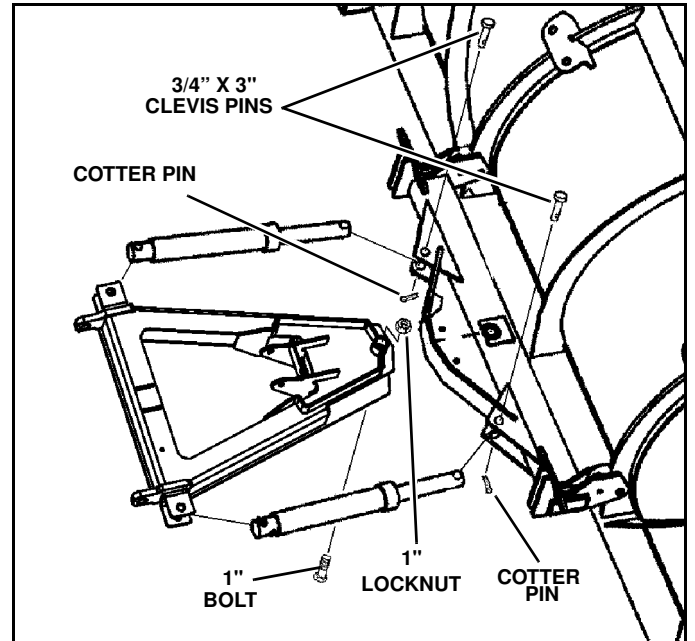
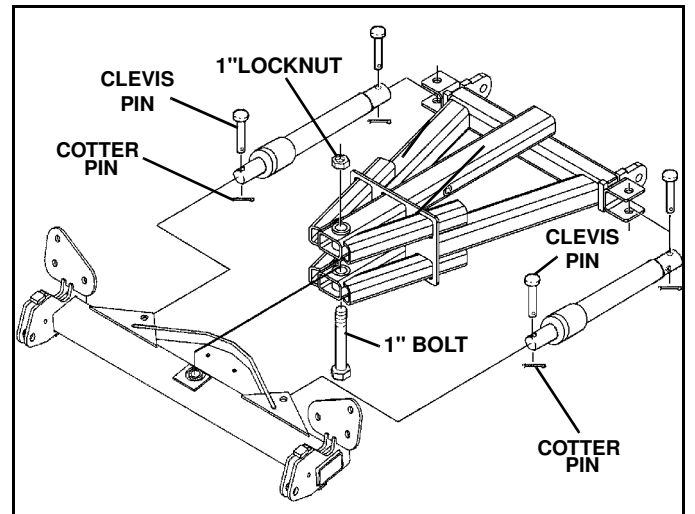

Figure 1-17
Figure 1-18
1. Remove 1" locknut and bolt. Slide swing frame into A-frame. Replace 1" bolt and locknut and tighten. (See Figure 1-17 or Figure 1-18)
2. Remove cotter pins and 3/4" clevis pins from rod end of cylinders. Extend cylinders using plow control to align holes in cylinder rod and swing frame. Insert 3/4" clevis pins and secure with cotter pins. (See Figure 1-17 or Figure 1-18) Bend cotter pin as shown in to prevent it from working loose.